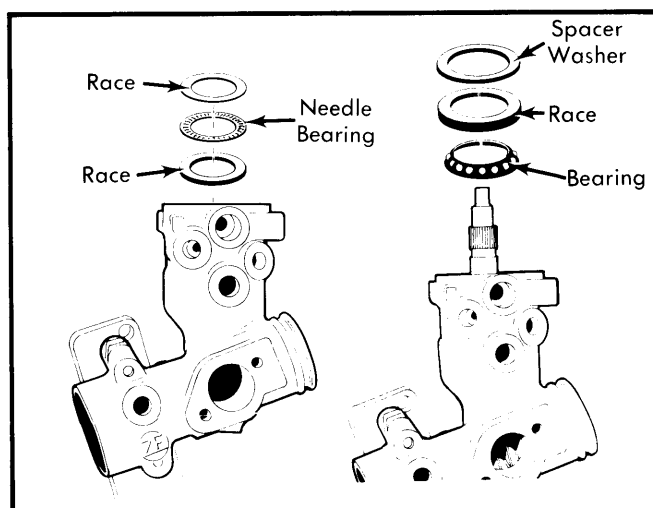

Fig. 6 Installing Pinion Bearings and Races. Race is Installed With Bevelled Edge Down
Reassembly — 1) If removed, lubricate needle bearing with lubricant (Volvo P/N 1 161 001-1 or equivalent). Install to pinion housing with drift. Bearing bottom should be flush with housing. Install bearing race (bevelled edge down), needle bearing and bearing race to pinion housing. Do not use lubricant at this time. See Fig. 6.
2) Install pinion assembly without seals. Install bearing, race and spacer washer to pinion. See Fig. 6. Install pinion housing cover. Tighten cover bolts to 84 INCH Lbs. (10 N·m). To adjust pinion, tie a string around shaft. Attach a spring gauge and measure turning force. Force should be 3.7-6.4 lbs. (1.7-2.9 kg).
3) Adjust by replacement of spacer washer. See Fig. 6. Washers are available in increments of .0004" (.01 mm) from .075" (1.91 mm) to .10" (2.45 mm). Remove pinion with bearings and spacers. Install 4 rubber "O" rings in valve body grooves. Install 4 teflon rings over "O" rings.
10) Adjust steering rack so it protrudes $2\frac{1}{16}$ " (53 mm) from edge of housing. Fill pinion teeth with lubricant. Install bearing washer with bevelled edge down. Attach thrust washer and thrust bearing to valve body with grease. See Fig. 6. Hold pinion with flat surface in line with upper high pressure outlet and insert to housing.
11) As the pinion enters housing, it will turn. When fully seated, the flat surface should be parallel to flat surface of housing. Rack must not have moved. Install bearing, race and spacer washer of predetermined thickness. See Fig. 6.